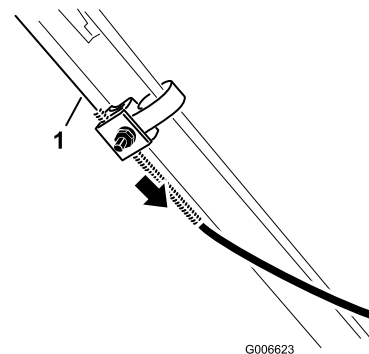

Figure 28
3. Pull the cable jacket downward until you remove the slack in the exposed cable (Figure 28).